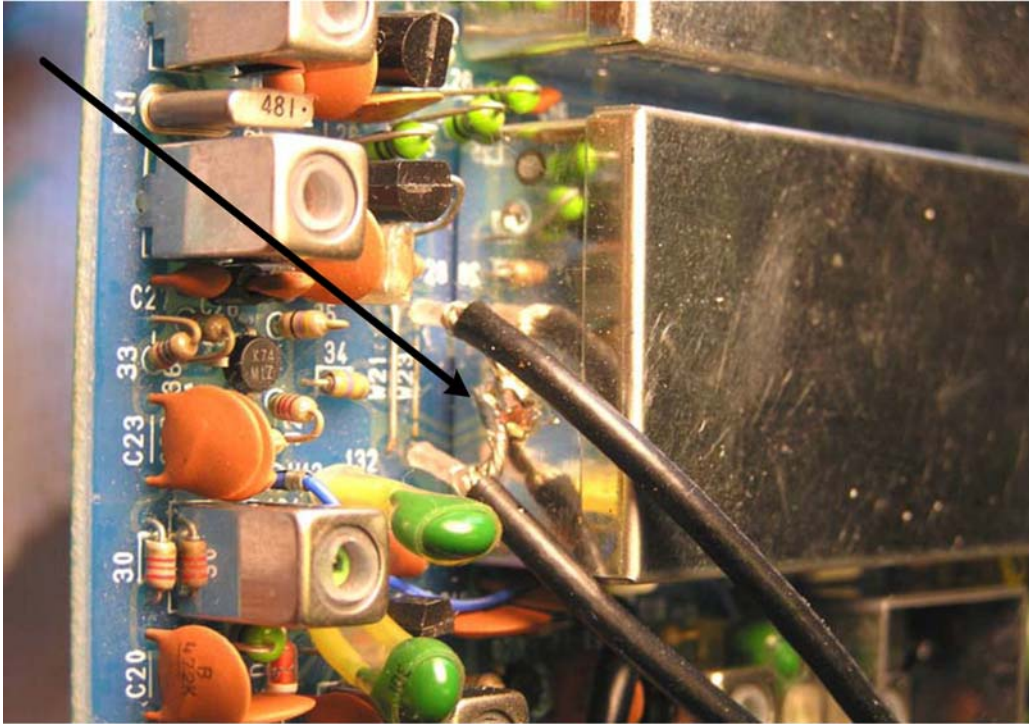

Figure 6 – DC Wire Locations
17. Solder the red wire to the point (at L137) on the RF board shown in Figure 6.
18. Solder the black wire to the ground point (ground wire) shown in Figure 6.